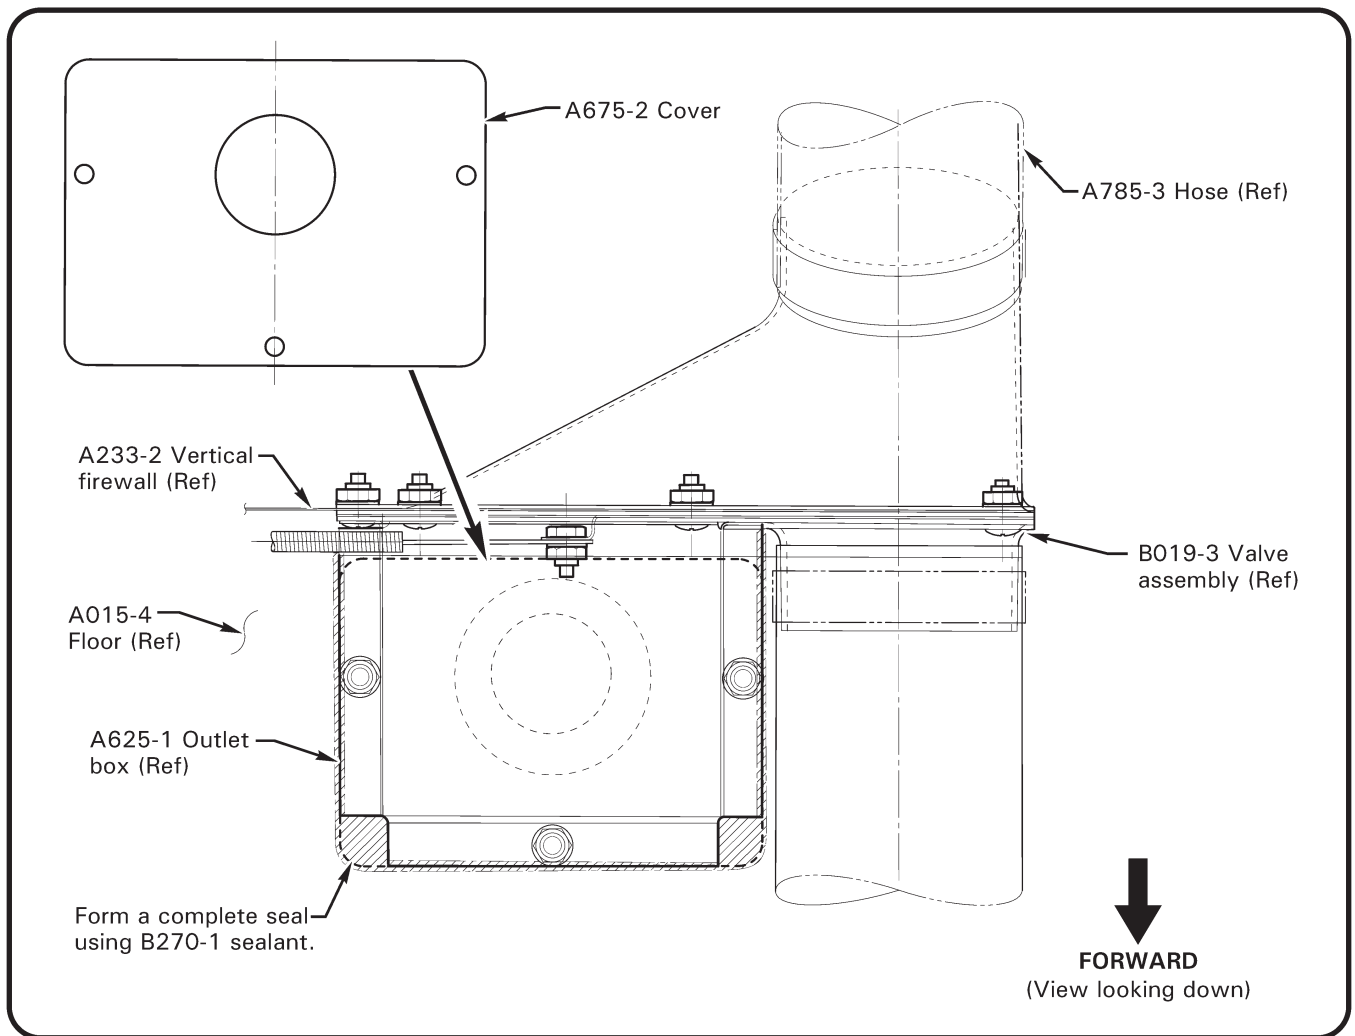

FIGURE 1
9. Refer to Figure 1. Position A675-2 cover between A625-1 outlet box and floor, aligning installation holes. Install cover and box. Seal around outlet box edge and floor using B270-1 sealant. Allow sealant to dry completely. Install A753-1 outlet box cover and insulation.